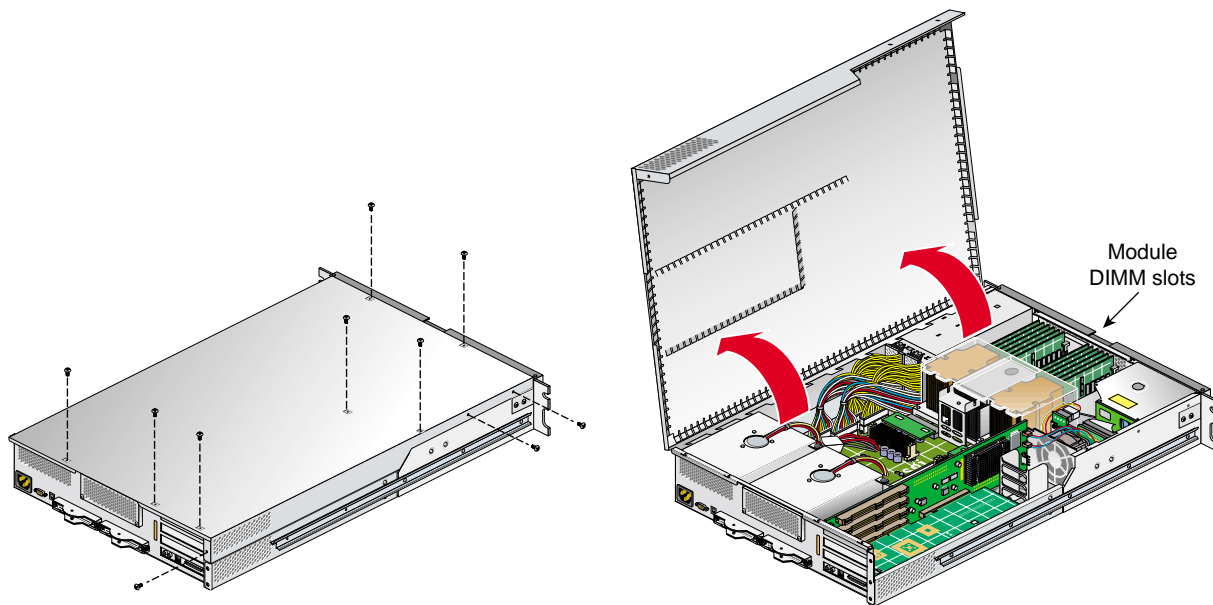

Figure 4-30 Opening Module Cover to Install DIMMs
5. To access the DIMMs, remove the ten Phillips screws shown in Figure 4-30 and lift and open the hinged cover.